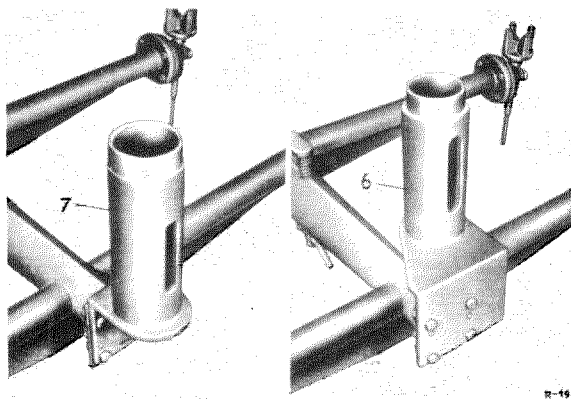

Fig. 61 — 1/2
1. Fit the adapter tube (9) 1220 mm long which is required for Model 190, to the gage (see Fig. 61 — 1/1).
2. Screw the locking device (6) for the single-jointed rear axle to the gage. The locking device is marked "I" or, on older gages, "220" (Fig. 61 — 1/2).